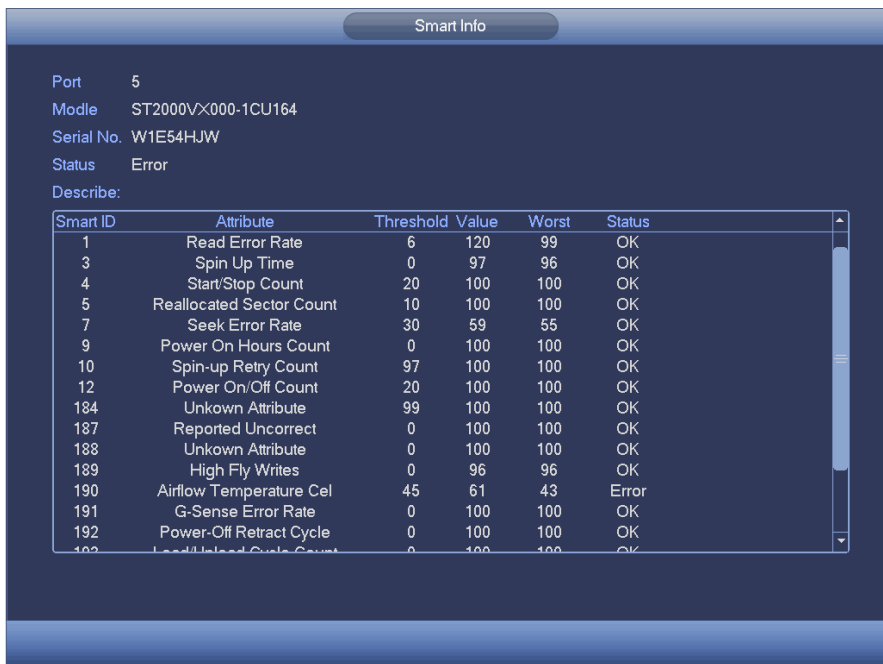

Figure 4-38
- SMART: Display HDD information. See Figure 4-38.
Double click one HDD information; you can see the HDD SMART information. See Figure 4-38.